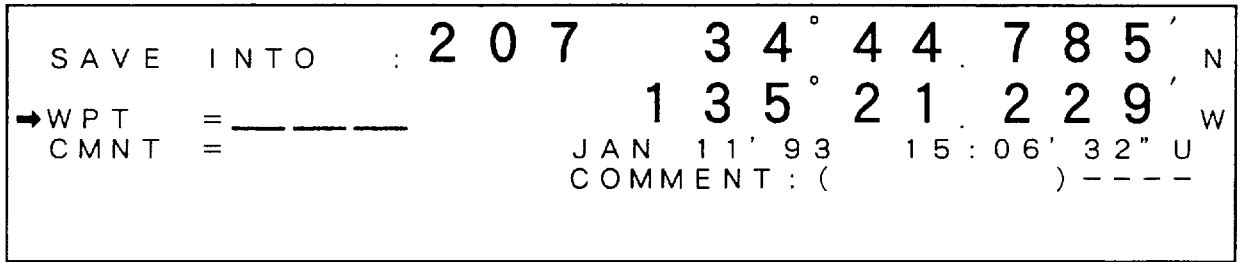

Figure 3-3 Typical SAVE INTO display
1) Press the **SAVE** key. The display should look something like Figure 3-3.